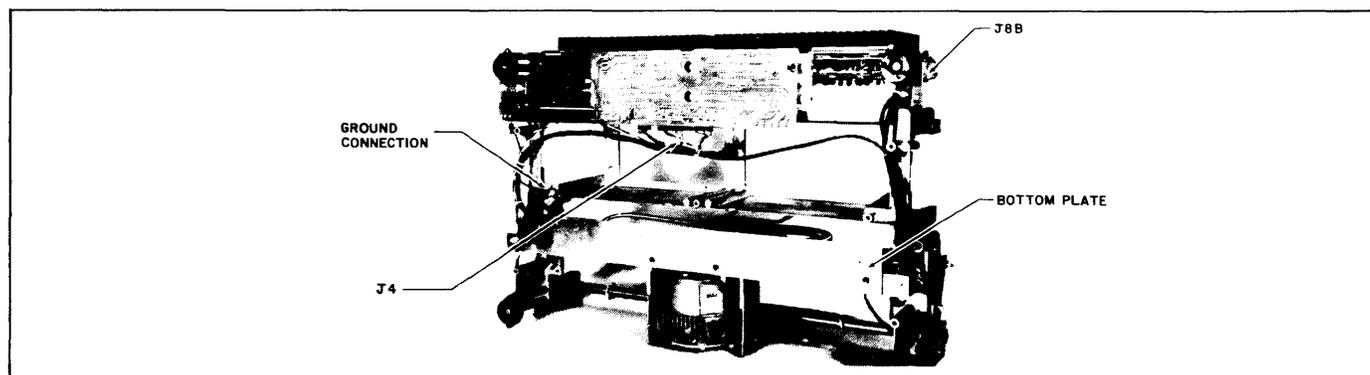

**Figure 3-13. Cable Clamp Removal**
*If the optional Bottom Feed Paper Chute is installed, skip to Step (6).*
- (5) Refer to Figure 3-13. Using the TORX T15 screwdriver, reach down behind the left end of the rear carriage rail and unscrew the four (4) #6-32 x 1/2" screws holding the white plastic spring cable clamps to the bottom plate. Retrieve and store these screws. Reach down behind the right end of the rear rail and remove the large spring cable shield from the two spring clips holding it to the bottom plate.